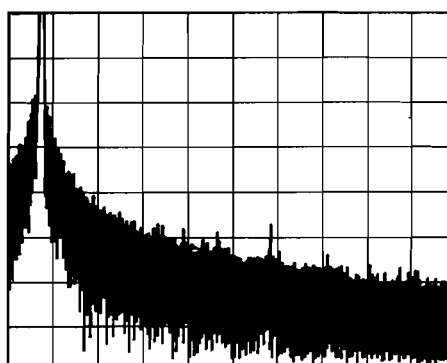

Figure 4-7. Spurious Test Spectrum Analyzer Display (321.8 MHz, 50 kHz/Division, 1 kHz Bandwidth)
4. Set the Generator frequency to 320.0 MHz and amplitude to 0.0 dBm. Set the spectrum analyzer input attenuator to the minimum attenuation allowable with a 0 dBm input signal. Adjust the tuning so the signal is centered on the second vertical graticule line from the left of the screen. Use 50 kHz resolution and 1 kHz bandwidth settings. Set the reference level to -40 dBm. The display should be as shown in Figure 4-7.